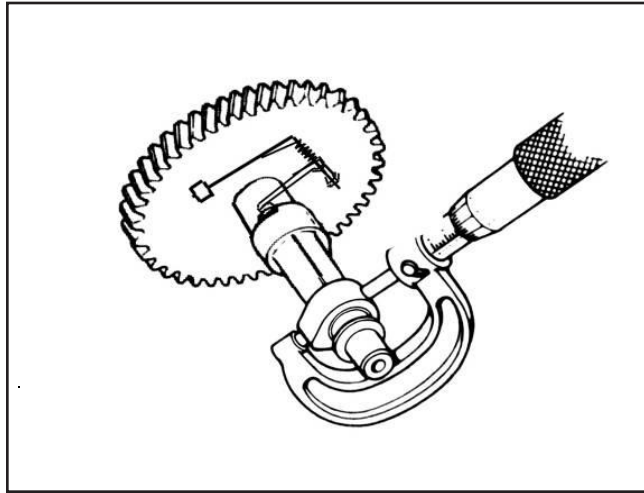

Figure 11
3. Measure the lobe heights, compare to specifications. Height (intake and exhaust) (Figure 11).